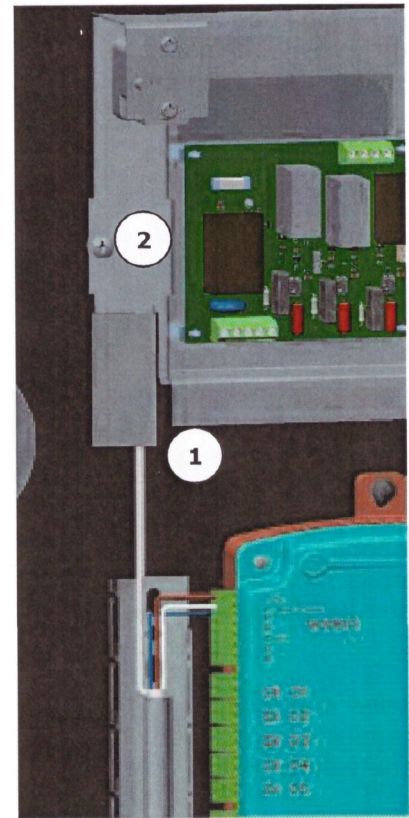

Figure 8: Modbus Earth Connection on relay housing bracket
- The earth shield of the Modbus cable must be connected to ground at both ends. The Earth connector block, the relay housing bracket faston tab connection (1) or the Jill nut screw (2) can all be used for this, see Figure 8.